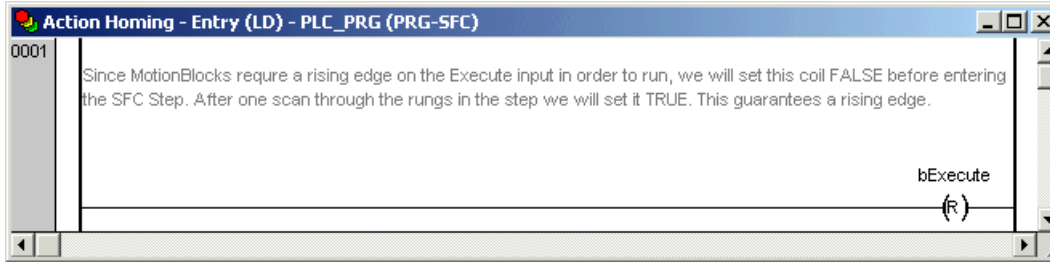

Figure 32, Homing Entry Action
- Set the language to LD and then enter the network shown in Figure 32 below.